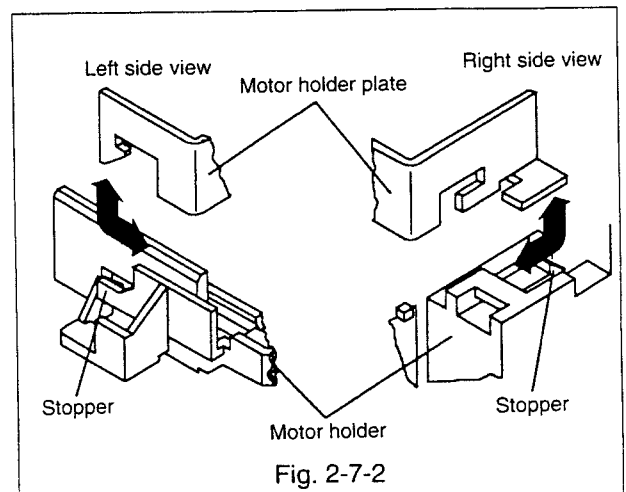

Fig. 2-7-2
- C. Remove two stoppers securing the motor and the motor holder plate.(Refer to Fig. 2-7-2.)